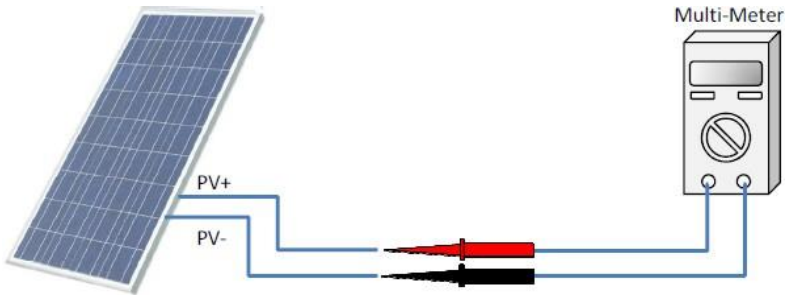

Figure 3-23 Polarity Check
3. Ensure correct polarity of the PV Strings before terminating the DC source circuits within the wirebox. Referring to Figure 3-23, the wiring from the PV string pairs must be checked according to the following steps: